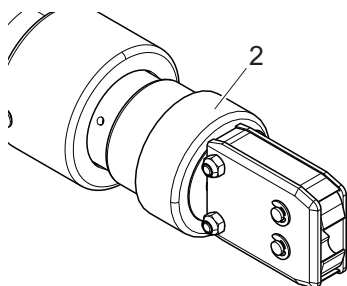

Fig. 25: Unfastening the pincer head
2. Unscrew the union nut (Fig. 25/2).